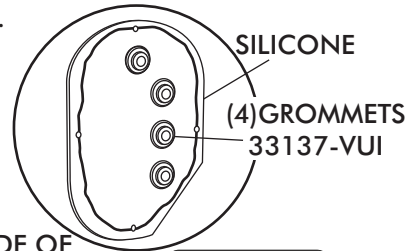

FIGURE 6b
- INSTALL (4) GROMMETS IN KICK PANEL COVER, SEE FIGURE 6b BELOW.
- APPLY A 1/4" BEAD OF SILICONE AROUND THE BACK SIDE OF KICK PANEL COVER AS SHOWN IN FIGURE 6b, BELOW.